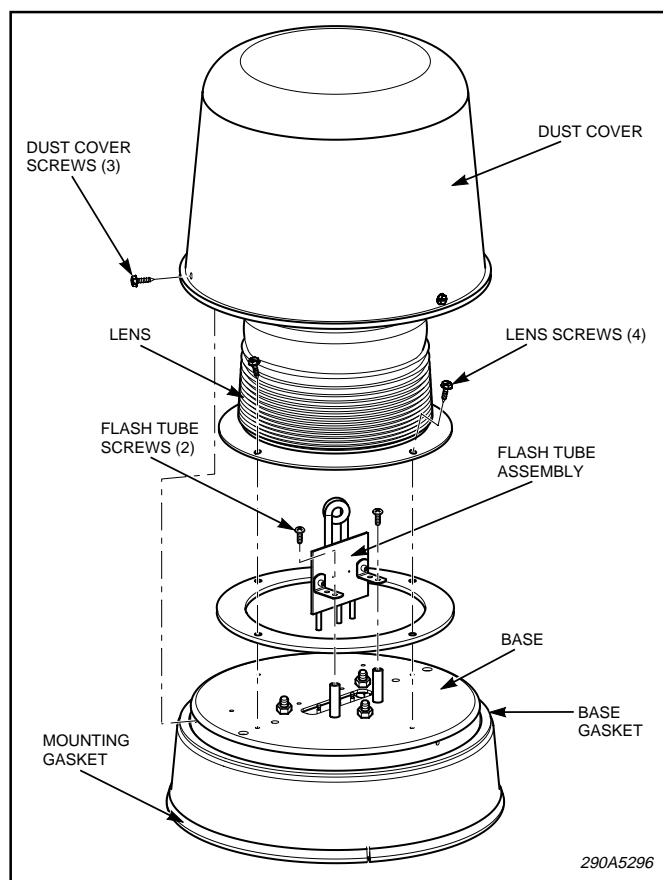

Figure 2.
- E. Grasp the flash tube by its printed circuit board and pull it off of the pins, using a gentle "rocking" motion. See figure 2. Install a new flash tube. Secure the flash tube assembly to the base using the previously removed screw. Ensure that the O-ring seal rests flat on the base (see figure 2) and reassemble the light.